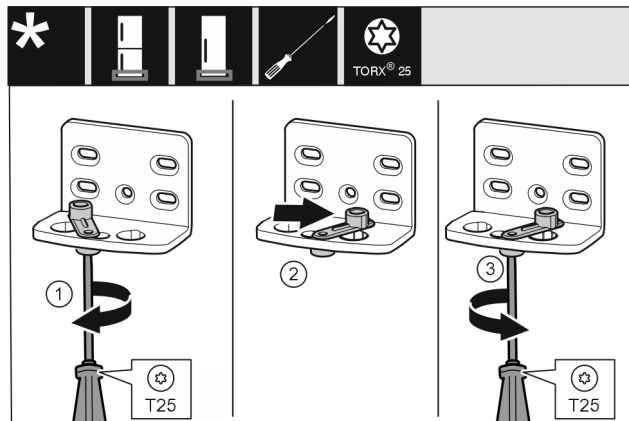

Fig. 18 \*
- Use screwdriver to loosen the screw Fig. 18 (1).\*
- Lift the door closing aid Fig. 18 (2) and turn 90° clockwise in the hole.\*
- Tighten screw Fig. 18 (3) with screwdriver.\*